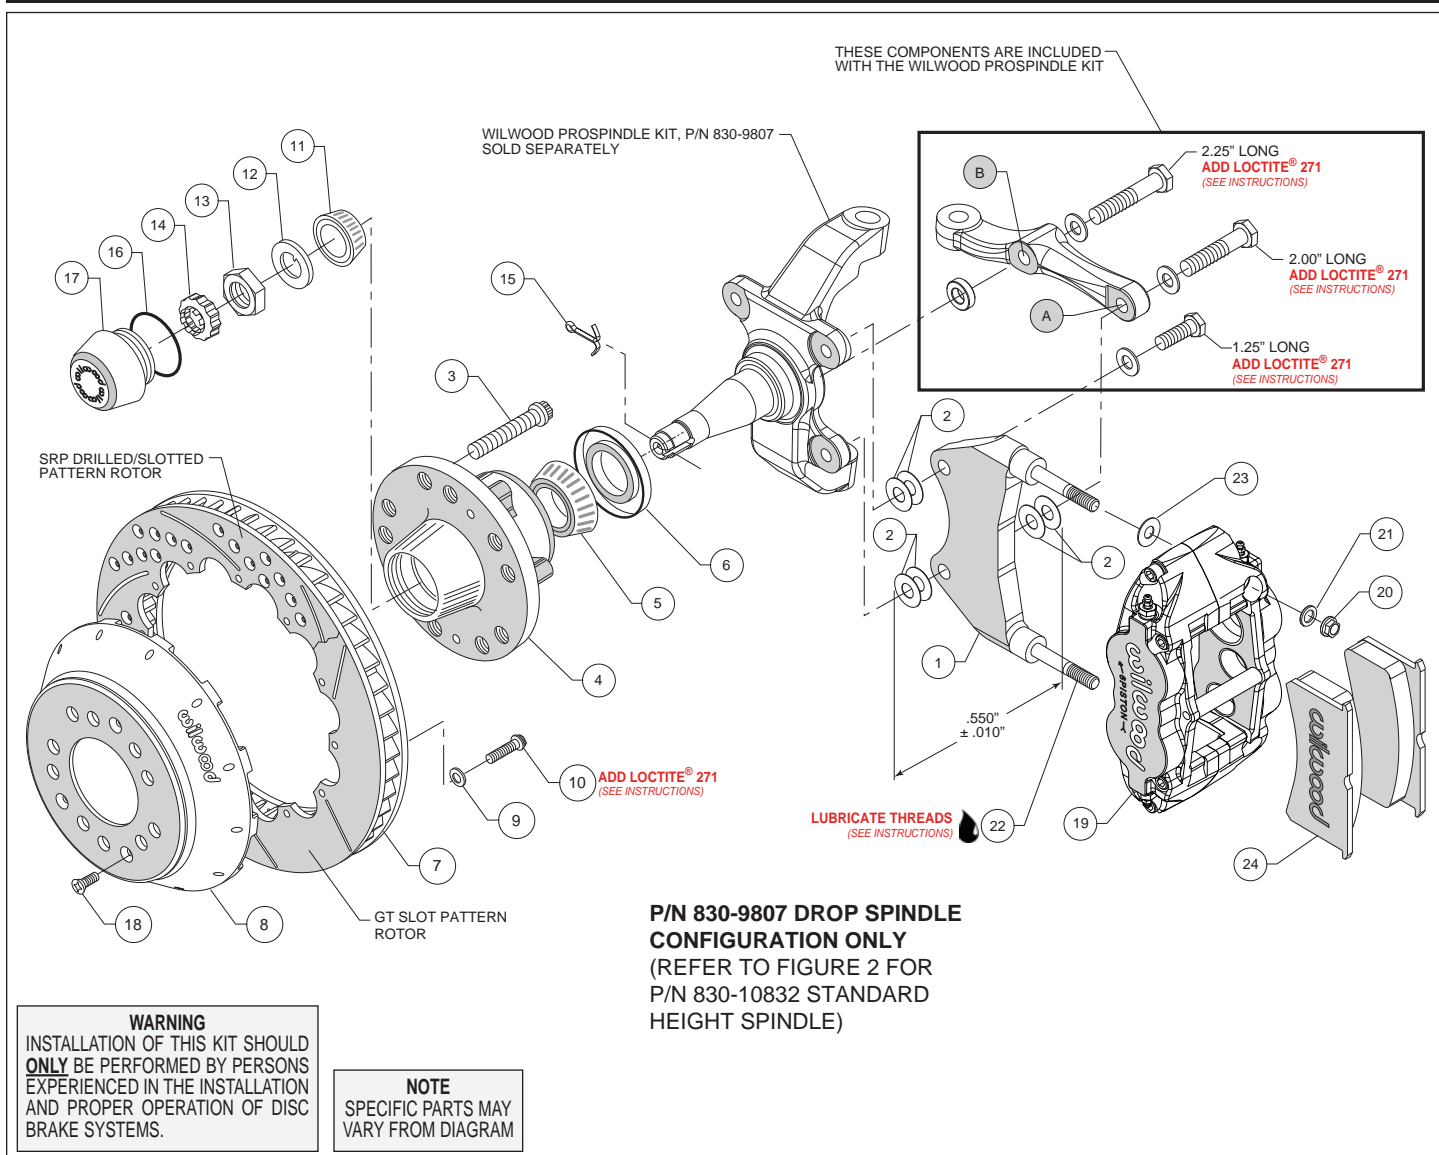
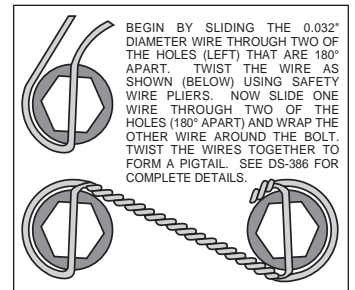

Figure 1. Installation Configuration For Drop Spindle, P/N 830-9807
Figure 4. Safety Wire Diagram
**Assembly Instructions** (numbers in parenthesis refer to the parts list and Figures 1 or 2 on the preceding pages):
- NOTE:** Each Wilwood ProSpindle kit includes bolts, washers, and a spacer to mount the steering arm and caliper bracket. The various bolts are identified by length in the following instructions and in Figures 1 and 2.
**For 2" Drop ProSpindle (P/N 830-9807):** The caliper bracket assembly (1) should initially be installed with clean, dry threads on the mounting bolts.
- Orient the bracket as shown in Figure 1 and Photo 1. Install at top spindle hole using 1.25" long bolt and .06" thick washer (from ProSpindle kit), and two .016" thick shims (2) between the bracket and spindle, Figure 1.
- Orient the steering arm, and identify the hole marked 'A', as shown in Figure 1. Install at bottom spindle hole using 2.00" long bolt and .06" thick washer (from ProSpindle kit), two .016" thick shims (2) between the bracket and steering arm, and another two .016" thick shims (2) between the bracket and spindle, Figure 1. The bracket is located between the steering arm and spindle. **NOTE:** The bracket and shim washers must add up to a total thickness of .550" ± .010", Figure 1.
- Finish attaching the steering arm through the hole marked 'B', as shown in Figure 1. Install using 2.25" long bolt, .06" thick washer, and .25" thick spacer (all from ProSpindle kit), Figure 1.
- Install the grease seal (6) by pressing into the backside of the hub (4), Photo 4.
- Orient the rotor (7) and the hat (8) as shown in Figures 1 or 2, and Photo 5. Attach rotor to hat using bolts (10) and washers (9). Using an alternating sequence, apply red *Loctite*® 271 to the threads, and torque to 155 **in-lbs**. For an added measure of security, the bolts may be safety wired using standard 0.032 inch diameter stainless steel safety wire as shown in Figure 4. Refer to Wilwood's data sheet DS-386 (available at [www.wilwood.com/Pdf/DataSheets/ds386.pdf](http://www.wilwood.com/Pdf/DataSheets/ds386.pdf)) for complete safety wire installation instructions.
- Screw dust cap (17) into hub (4), Photo 7. Friction created by the o-ring (16) on the dust cap keeps it from unscrewing.
- Slide the hat/rotor assembly (7/8) onto the hub (4) taking care to align the small countersunk holes in the hat with the small threaded holes in the hub. **NOTE:** The hat must fit flush against the hub face or excessive rotor run out may result. Install three flat head screws (18) through the small holes in the hat (8), Photo 7, and torque to 85 **in-lb**.
- NOTE:** This kit contains distinct right and left hand calipers that must be mounted in a specific direction, as described below. Lubricate the caliper mounting studs (22) with lightweight oil. Initially place one .035" thick shim (23) on each stud as shown in Figure 1 or 2, and Photo 8. Mount the caliper (19) onto the bracket (1) using lock nuts (20) and washers (21), Figure 1 or 2. Ensure that the caliper is mounted so that the largest pistons are at the rotor exit end of the caliper, in relation to the direction of rotor rotation. Temporarily tighten the lock nuts and view the rotor through the top opening of the caliper. The rotor should be centered in the caliper, Photo 9. If not, proceed as follows:
- For the lower bracket mount bolt, if a shim was added between the bracket and spindle, then a shim must be removed between the steering arm and bracket, such that the total thickness of bracket and shims remain equal to  $.550 \pm .010$ ", Figure 1.